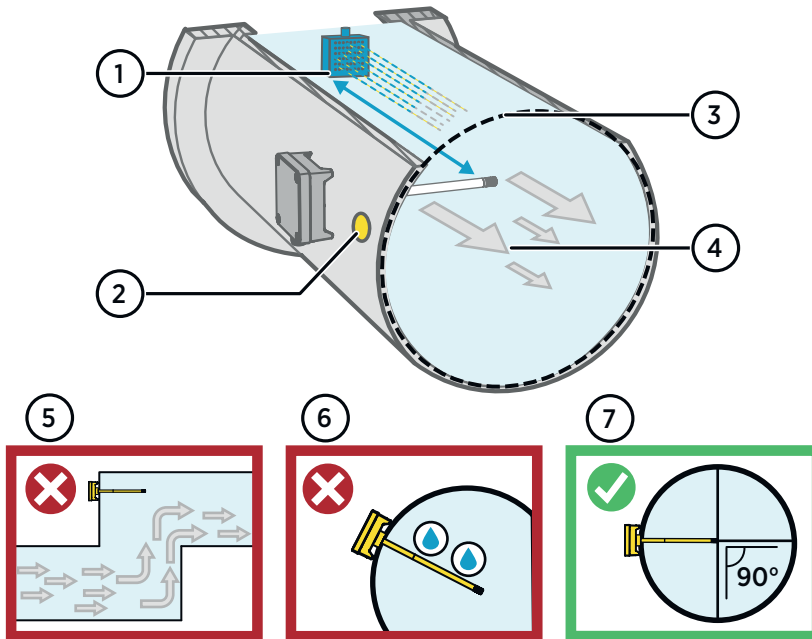

Figure 9 Duct Installation Overview
- ▶ 1. Insert the reference transmitter into the measurement environment next to the transmitter that you are adjusting. The reference transmitter should be inserted approximately 30 cm (12 in) from the HMD60 probe's installation hole, towards the direction of the air flow. See Figure 9 \(page 14\).